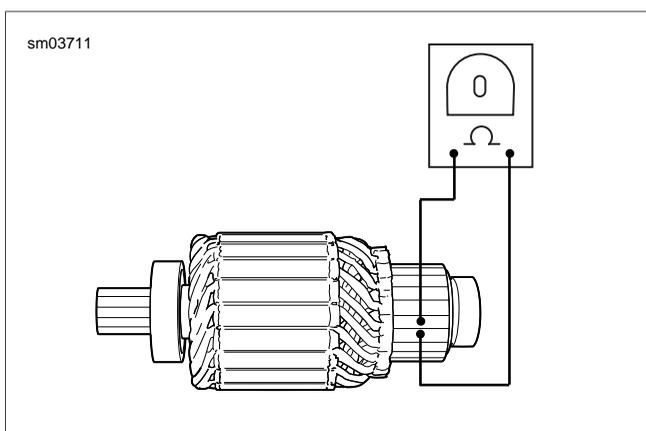

Figure 5-5. Armature Open Test
6. See Figure 5-5. Check for an OPEN ARMATURE with an ohmmeter or continuity tester.